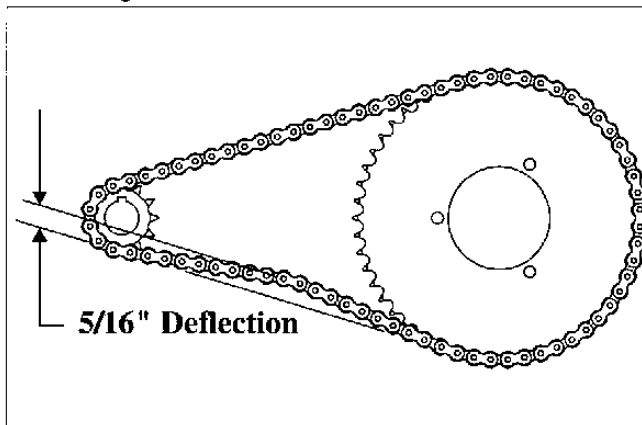

Figure 8
- Maintain engine-to-electric clutch roller chain tension. Correct tension allows 5/16" deflection midway between sprockets. See Figure 8.